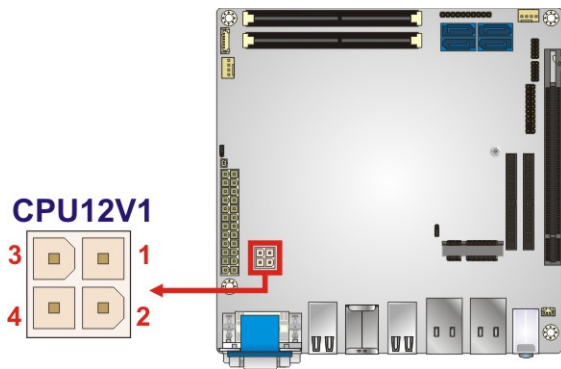

Figure 3-2: DC-IN Power Connector Location
- CN Location:** See **Figure 3-2**